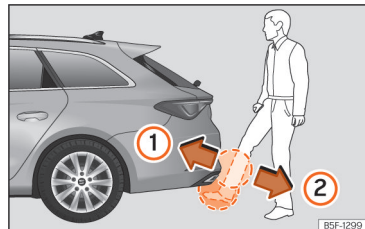

Fig. 83 Rear lid with sensor-controlled opening [Easy Open].
- With a brisk movement, bring your foot and lower leg as close as you can to the bumper. The lower part of the leg needs to be close to the upper sensor area and your foot to the lower sensor area »» Fig. 83 ①.
- Quickly remove your foot and lower leg from the sensor areas »» Fig. 83 ②. The rear lid will open automatically.